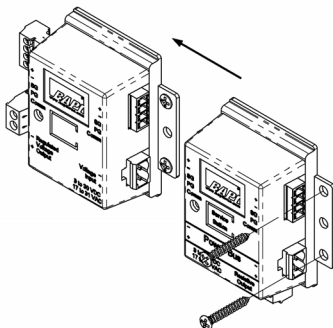
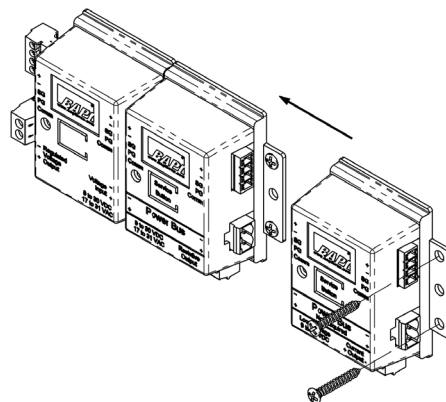
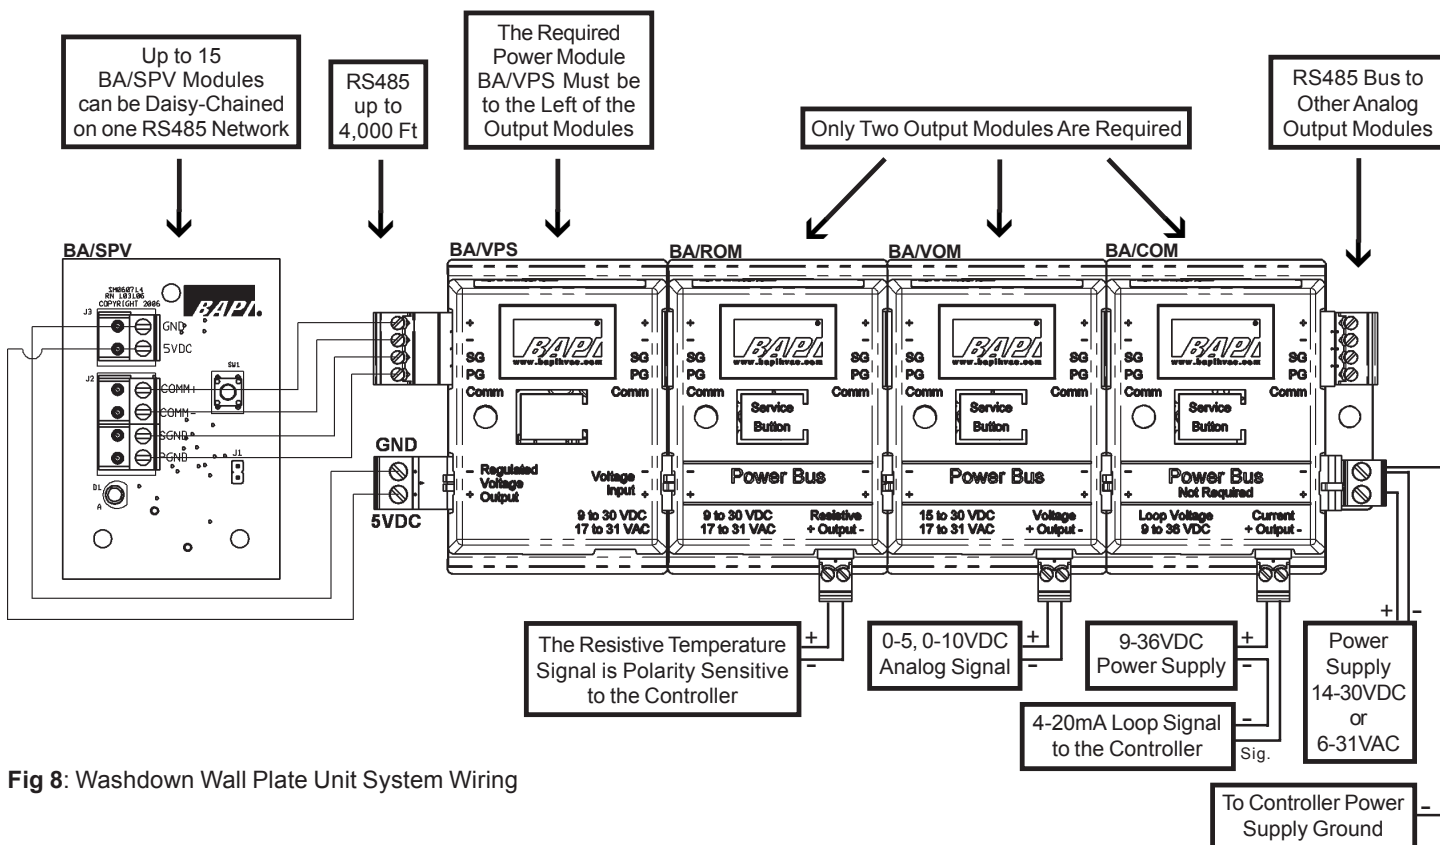

Fig 6: Mount 1st Analog Output Module
Fig 7: Mount 2nd Analog Output Module
Fig 8: Washdown Wall Plate Unit System Wiring
Mount a Washdown Wall Plate Power supply to a surface with two screws as shown in Figure 6. Slide an analog output module onto the Washdown Wall Plate Power Supply until its connectors are fully mated into the Washdown Wall Plate Power Supply's connectors. Attach the analog output module to the surface with two screws as shown in figure 7. Slide additional analog output modules on the end as shown in Figure 8. Make sure to attach each additional analog output module to the surface with two screws. The next module covers the previous one's screws, so remember to drive the screws as you proceed.
- Note 1:** Each BA/SPV Wall Sensor requires two (2) output modules. One (1) is for Temperature, one (1) for Humidity and one (1) BA/VPS Power Supply.
- Note 2:** Wire the Washdown Wall Plate Unit to the Washdown Wall Plate Power Supply and analog modules as shown in fig 8 above.
- Note 4:** Up to one hundred twenty seven (127) analog output modules may be connected to the Washdown Wall Plate Power Supply, connector to connector or with RS485 cable.